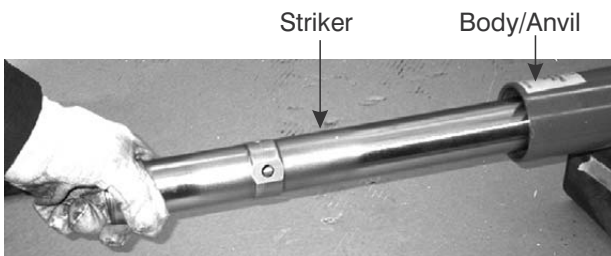

Figure 8-8. Removing Striker from Body/Anvil.
6. Once the Striker (4) is accessible, lower the Body/Anvil (1) to the level surface. Pull the striker from the body/anvil by hand as shown in Figure 8-8.